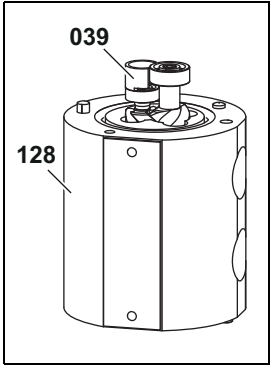

Fig. 3
3. Pull the distance sleeve **039** together with the set of screws out of the measuring housing **128**, see Fig. 3, page 30.